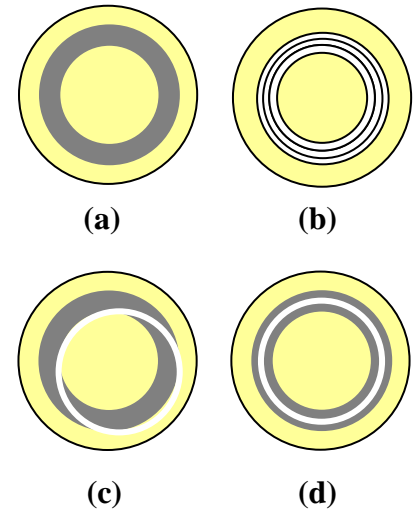

Fig.25
- g. Turn the top of the telescope (**Fig.26**) until the dark ring image is in focus. If the dark ring is hard to find, put a normal white print paper on the stage and under the objective then you will see the dark ring as shown in **Fig.25 (a)**.
- h. If the bright ring is still obscure as in **Fig.25 (b)**, raise or lower the condenser by adjusting the condenser focusing knob (or the microscope focusing knob if necessary) till the bright ring is in focus and the dark ring is visible.
- i. If the two ring images are not coincided as shown in **Fig.25 (c)**, adjust the two centering screws on the condenser ring plate till the two rings are coincided with each other as shown in **Fig.25 (d)**.